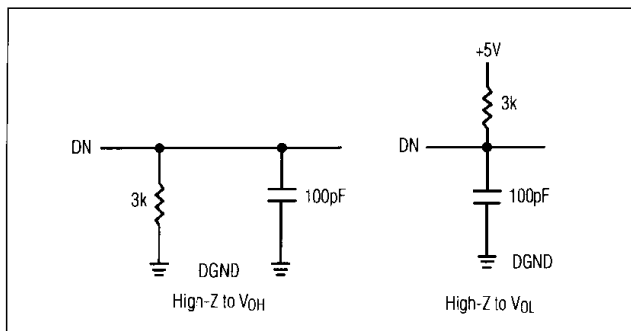

図1. データアクセス・タイミング用負荷回路
**Note 4:** tdv is the time required for an output to cross +0.8V or +2.4V measured with load circuit of Figure 1.